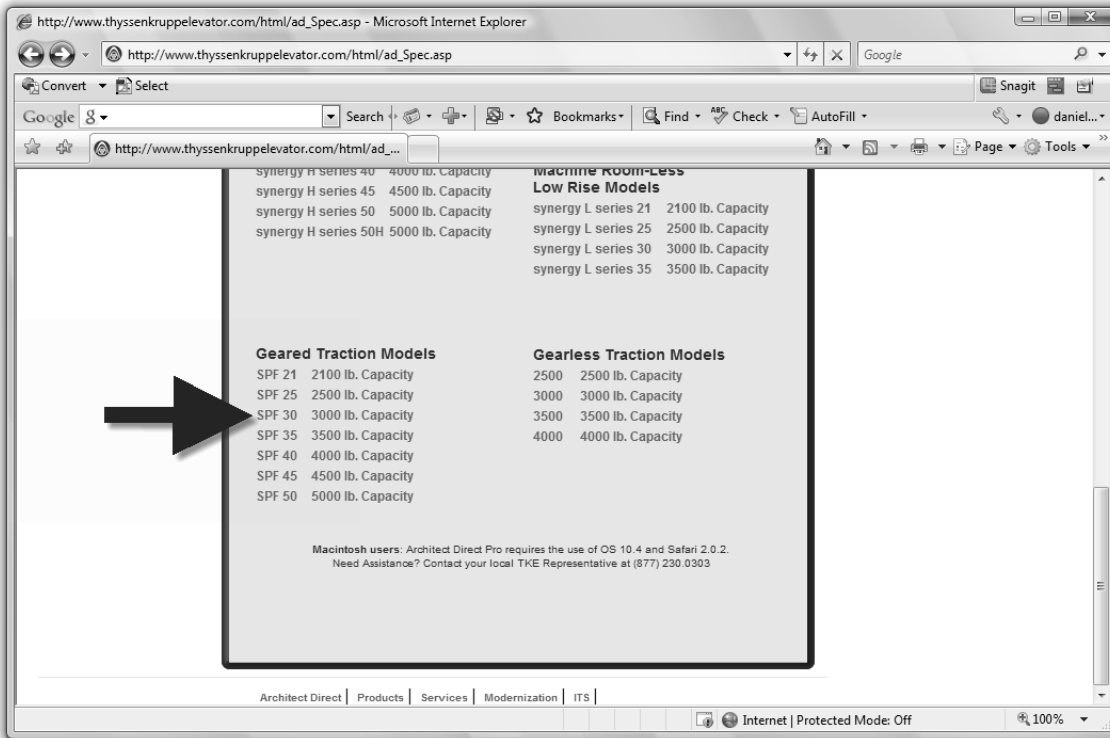

Figure 4-3.2 Elevator manufacturer’s website
5. Scroll down and select **SPF 30 – 3000 lb. Capacity** (Figure 4-3.2):